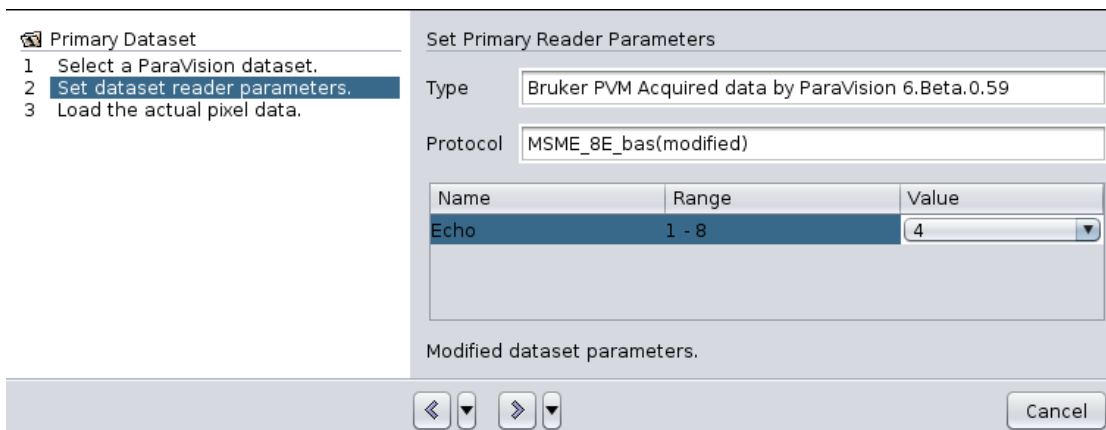

Figure 1.157: Load Dataset Task: Set dataset reader parameters
- The second step allows to choose the dataset categories (see [Figure 1.157 \[188\]](#)).
- Most operations in Jive require a 3D volume of consecutive slices. Simple 2D multi-slice or 3D single slab datasets are read in directly. An according subset of a dataset with a complex structure is defined by setting dataset categories in this step; as shown in [Figure 1.157 \[188\]](#). The shown dataset contains slice and echo categories. In the 3D viewer all slices can be displayed as a 3D cube for a selected echo (e.g. the 4th echo). To change the echo number select the Value field in the Echo row. A pop-up menu opens where the new echo number can be selected. It is possible that the value is not a number but text describing the image. For example, in DTI reconstructed image series the DTI quantities (like FA Image, 1st Eigenvalue, etc.) can be chosen from the DTI row values.